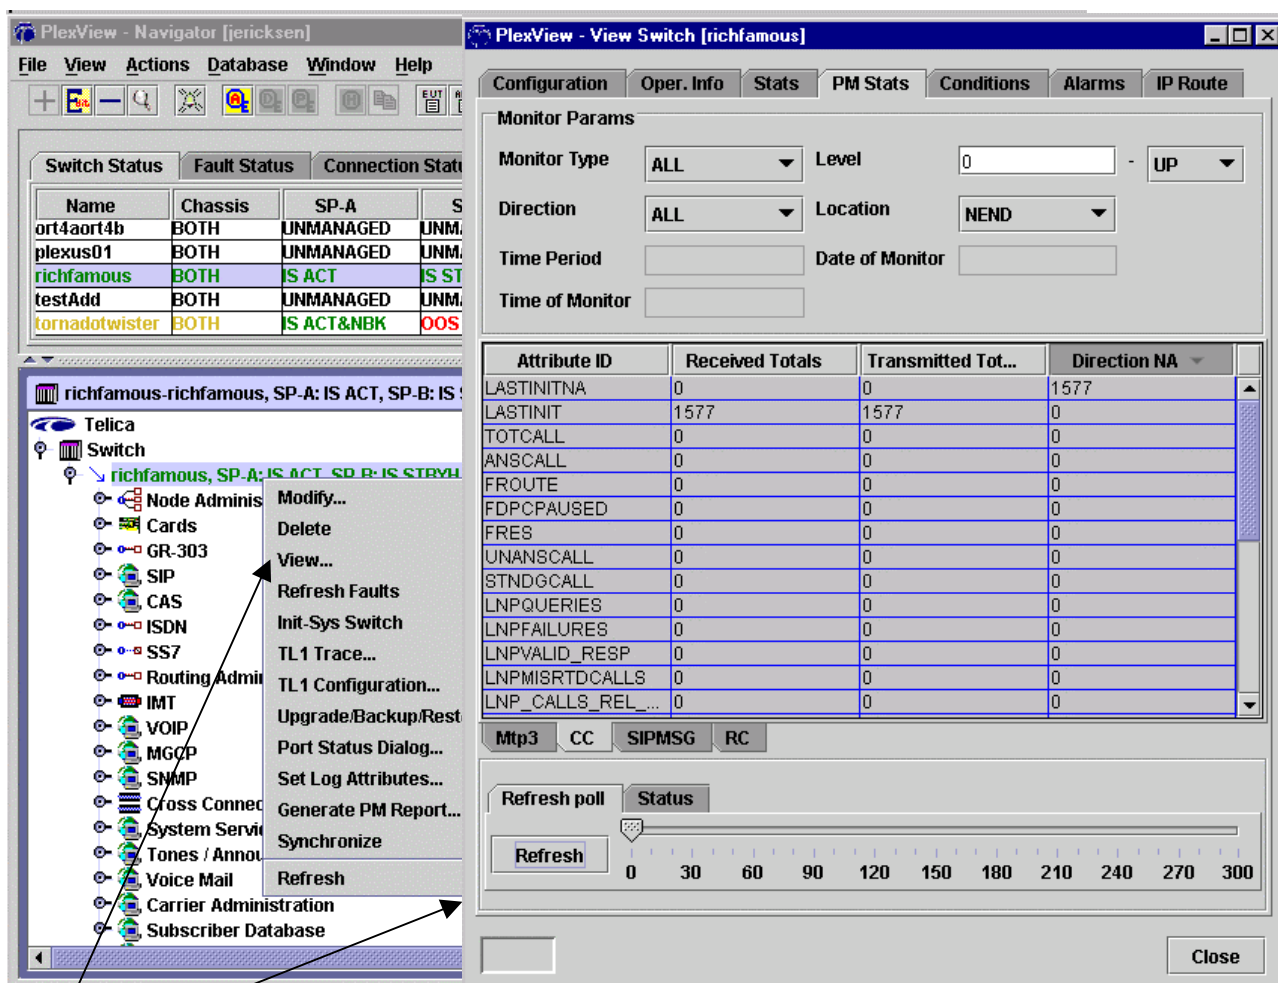

Figure 1. Call Control Stats
5. Right-click the switch name in the switch status panel or double-click the switch to select it for the main panel and then right-click the switch name. Then select *View, Stats* and click *Refresh* near the bottom of the panel for latest information. See Figure 1.